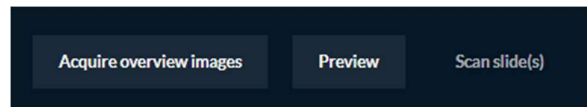

Figure 7-1 SCIZYS software window.
1. To start the preview mode, click the **Preview** button (*Figure 7-1*).